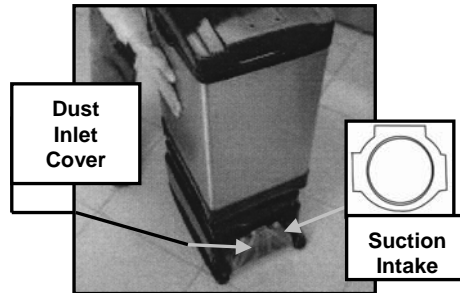

Fig. 6
2. Remove dust inlet cover and insert hose into suction intake. (Fig. 6)